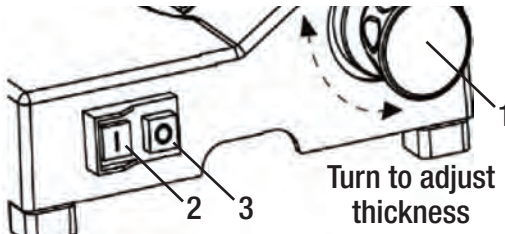
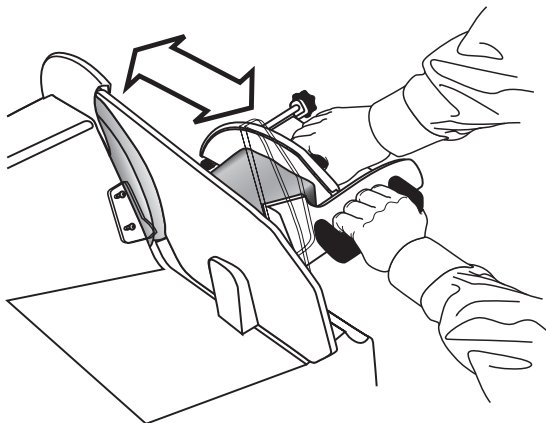

Figure 3. Close up view of Power and Stop Switches.
Figure 5. Keep hands behind guards when slicing.
2. Hold the long handle of the food pusher (10) as shown in Figure 5.
3. To start the blade, turn on the power with your left hand by depressing the Power Switch (2) (see Figure 3.)
4. Set the Thickness Control Knob (1) initially to a thin setting. Make a slice and then adjust to your desired thickness.
5. Now with the firm grip on the food carriage and light pressure against the food pusher advance the food into contact with the rotating blade by slowly moving the carriage forward (Fig. 5). The food will be sliced and the slices will drop into a tray or plate placed on the slicer base on the opposite side of the blade. If the slice thickness needs to be adjusted, do so by rotating the Thickness Control Knob (1). Rotating the Knob clockwise reduces the slice thickness.
6. If you continue slicing until the food loaf is nearly expended, you will find you are unable to cut further. Some food will remain unsliced. Do not attempt to apply excess pressure on the food pusher or to cut any further! Shut off the power (3), turn the thickness control knob to “zero” and remove the food remainder.
Never try to hold the food by hand when slicing. You can cut yourself seriously. Always use the carriage and food pusher as shown in Figure 5.